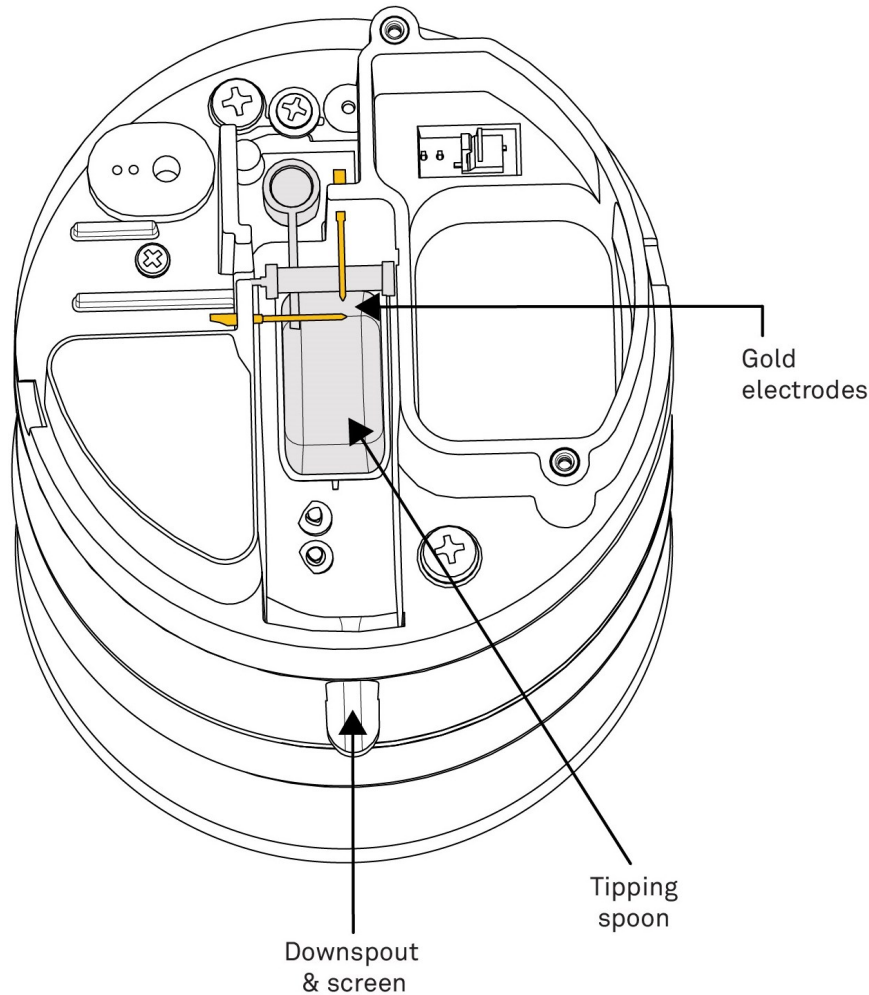

Figure 8-4. Downspout and screen, tipping spoon, and gold electrodes
- c. Check the downspout for debris (Figure 8-4 [p. 24]). Use a pipe cleaner or small soft brush to clean the downspout.